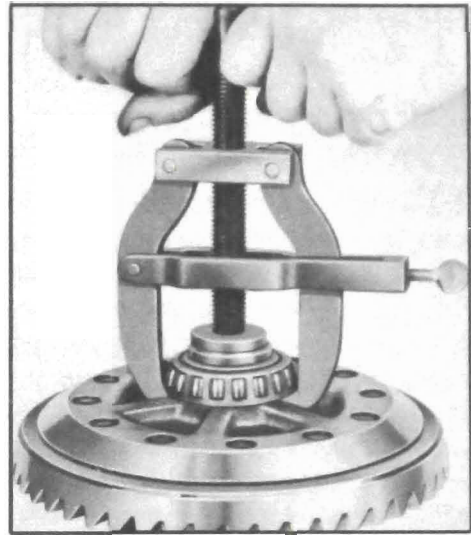

Figure 5-16—Removing Differential Bearing, Using Puller J 2241
1. If a differential bearing is to be replaced, or removed from old differential case and installed on new case, pull bearing from case using Bearing Puller J 2241. See figure 5-16. The ends of puller jaws fit into notches in differential case so that pressure can be applied to bearing inner race. Do not pull on rollers.